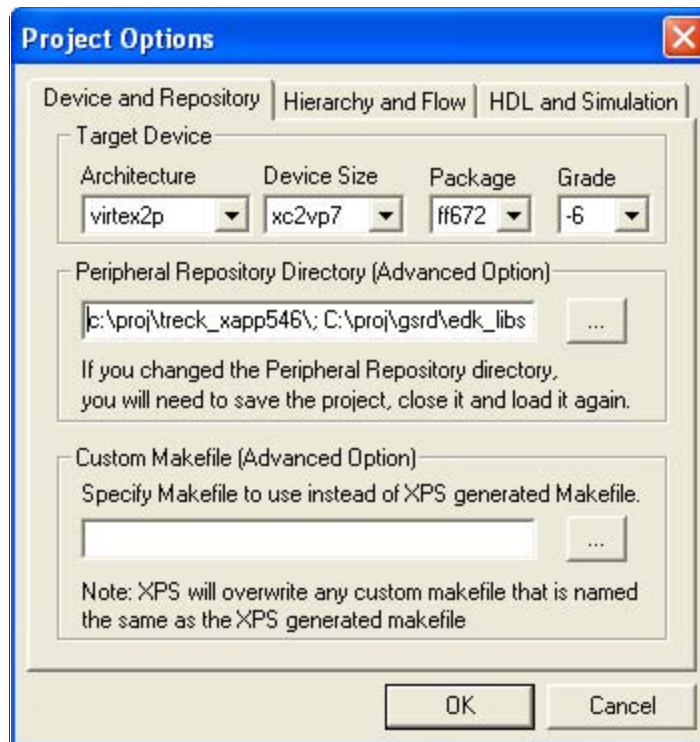

Figure 2: Project Options
4. Under Options-Project Options (Figure 2), set up the peripheral repository directory path to point to the GSRD EDK libraries, as well as the path to the Treck software files. Use a semi-colon as a delimiter for these two paths.